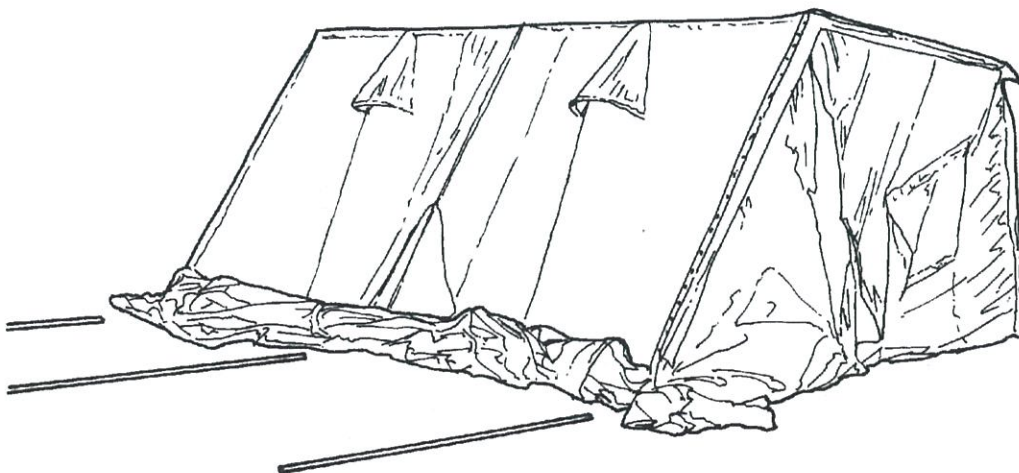

Fig 5-14 — First Stage of Fitting Cover and Roof Inner
- a. Drive pins approximately seven feet from each corner of the frame. Secure with pins temporarily to allow central positioning of cover (Fig 5-14).